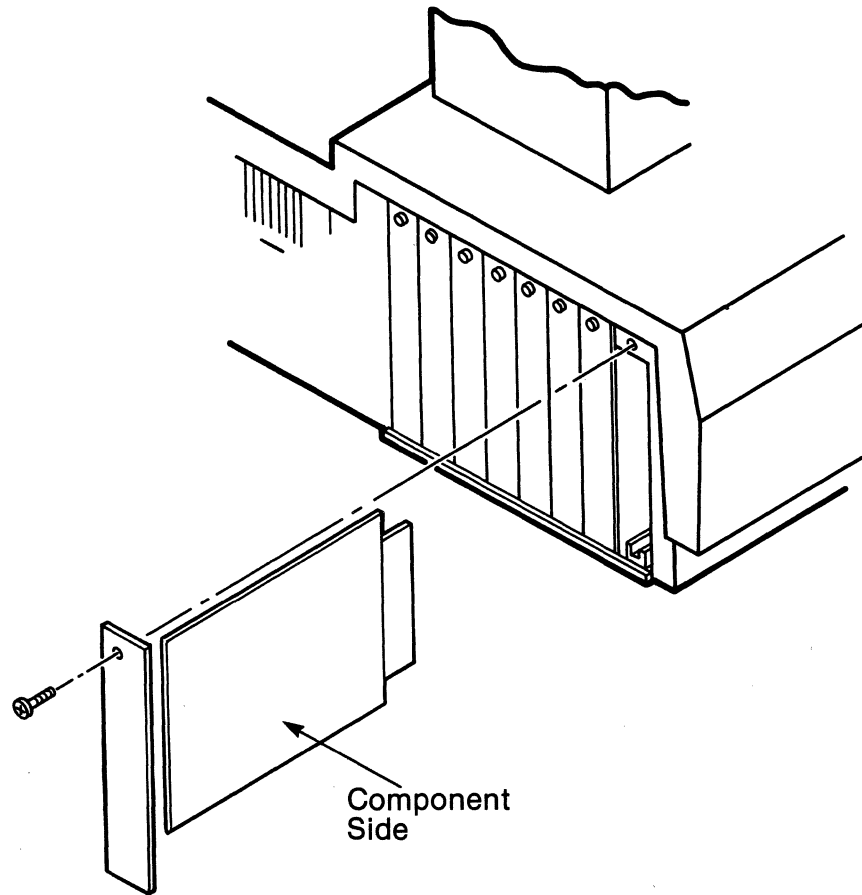

Figure 2-3. Installation of Enzyme Analysis (Kinetics) Program Board
4. Insert the Program board in one of the slot guides with the component side facing right as you face the back of the Operator Unit, as shown in Figure 2-3. Carefully push the board all the way in until solidly engaged in the bus connector on the mother board.